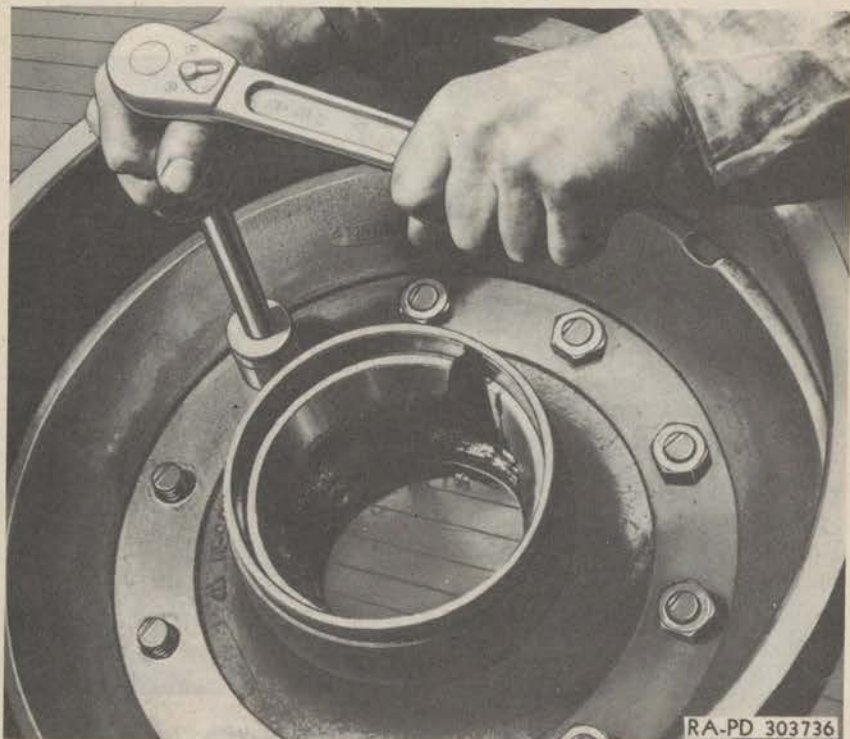

Figure 144—Removing Drum Stud Nuts
(2) **REMOVE BRAKE DRUM FROM HUB.** Lay the wheel flat on the floor with the brake drum facing up, and remove the brake drum stud nuts, then lift the brake drum from the hub studs (fig. 144).